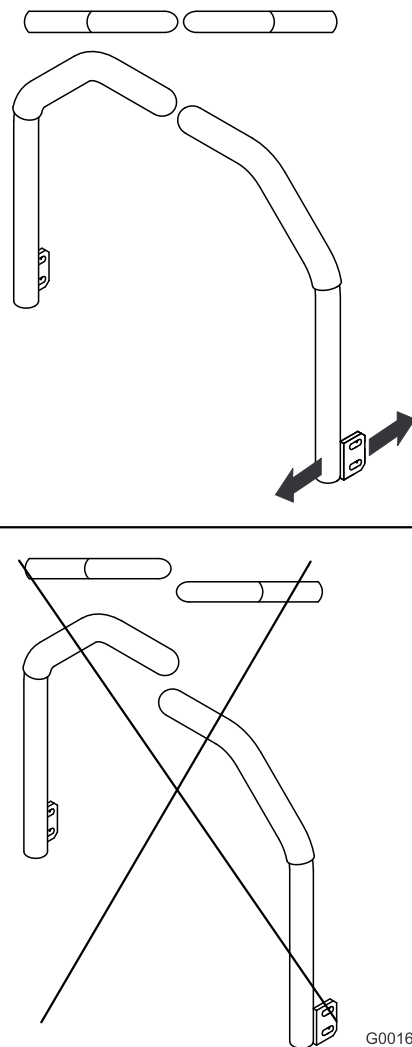

Figure 88
5. Adjust the control levers so that they line up (Figure 88) and tighten the bolts, securing the levers to the posts.